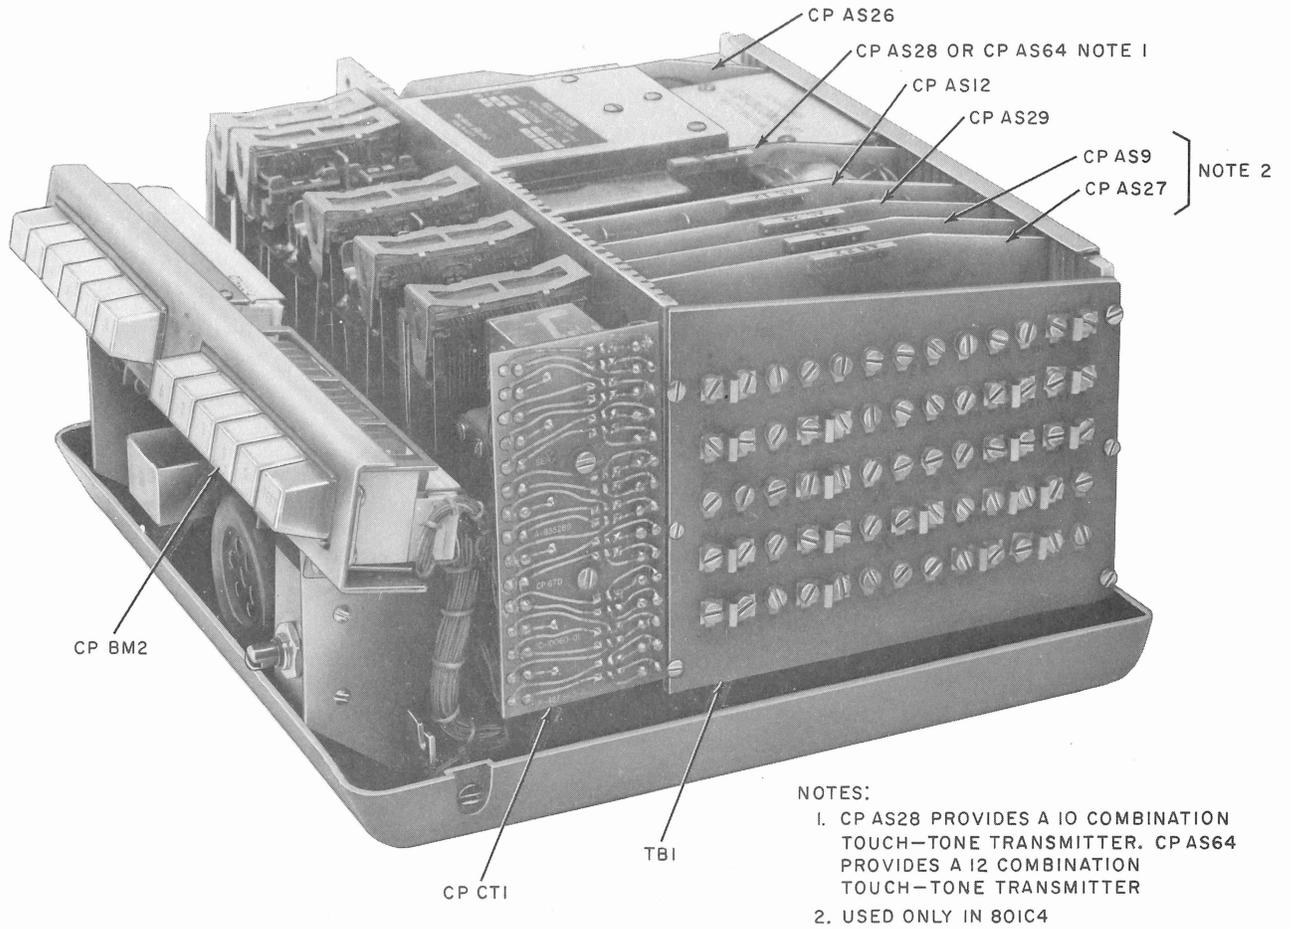

Fig. 3—Data Auxiliary Sets 801C3 and 801C4—Covers Removed Showing the Circuit Pack Locations
4.01 When spare circuit packs are available, an attempt should be made to identify the defective circuit pack or packs that are causing the trouble. When this can be done, only the defective circuit pack should be returned to the distributing house instead of the entire ACU. Installation of a 12-combination TOUCH-TONE transmitter requires the replacement of circuit pack CP AS28 with circuit pack CP AS64. Refer to Fig. 3 for the designation and location of the circuit packs.